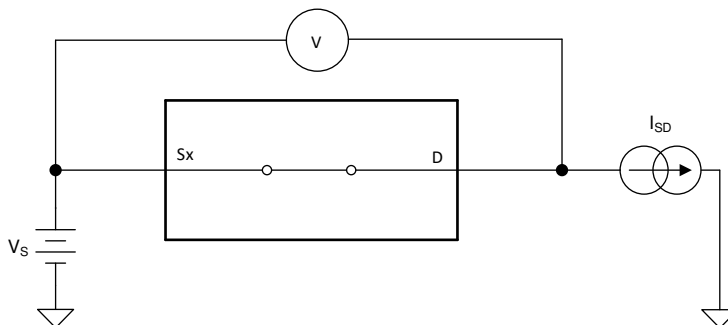

图 6-1. On-Resistance Measurement Setup
The on-resistance of a device is the ohmic resistance between the source (Sx) and drain (D) pins of the device. The on-resistance varies with input voltage and supply voltage. The symbol  $R_{ON}$  is used to denote on-resistance. The measurement setup used to measure  $R_{ON}$  is shown in 图 6-1. Voltage (V) and current ( $I_{SD}$ ) are measured using this setup, and  $R_{ON}$  is computed with  $R_{ON} = V / I_{SD}$ :